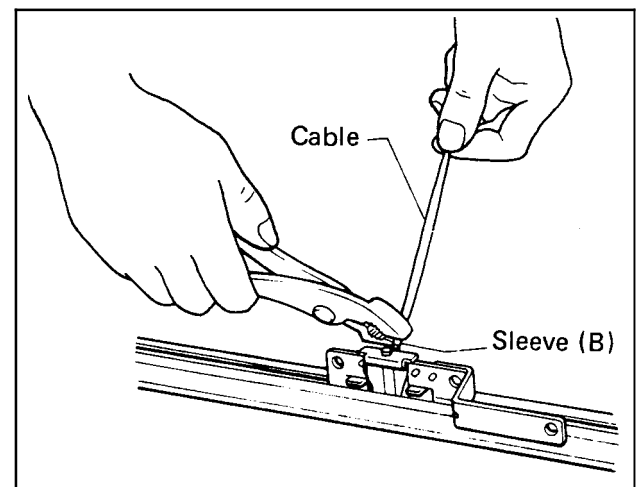

Fig. 21
8. After again making sure the movement of the closing plate is smooth, move sleeve (B) up to the closing plate. With pliers, crimp the sleeve and cut off the excess cable. (Fig. 21)